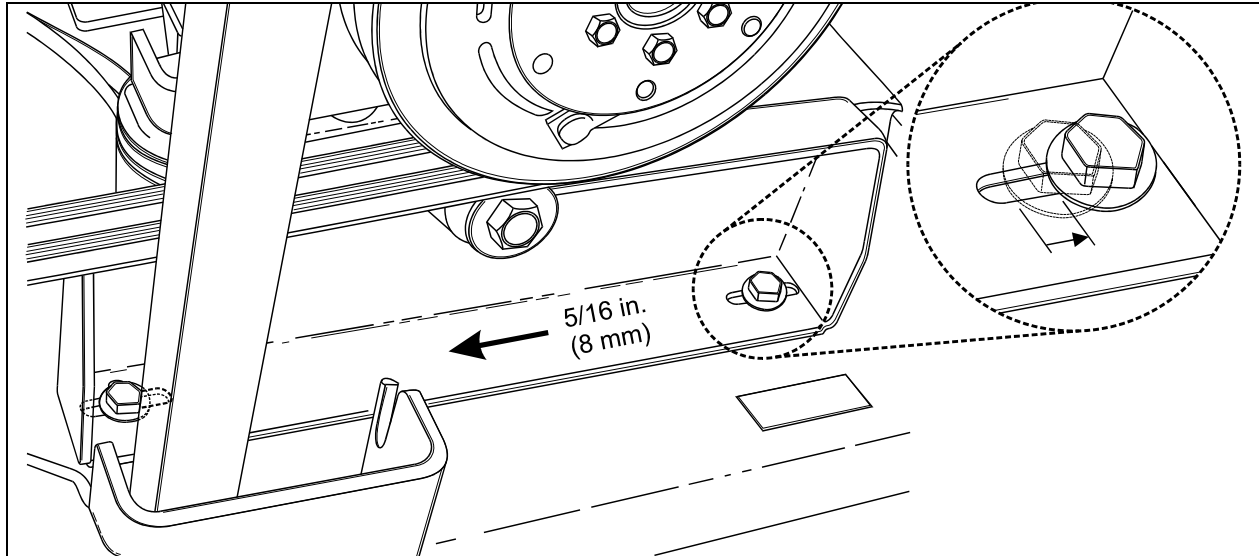

FIGURE 28: MOVING THE A/C COMPRESSOR TOWARDS THE ENGINE
6. Loosen the bolts retaining the A/C compressor mount and slide the complete assembly by 5/16 inch (8 mm). It may be necessary to enlarge the slots on the bracket or on the vehicle frame to allow for the displacement (refer to figure 28);